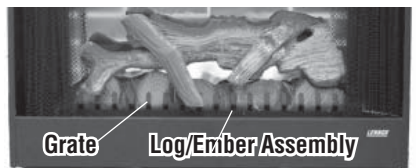

Figure 12
4. Remove the 2 screws on the front of the grate (see Figure 12. Also see item #7 on page 17). Remove Grate.